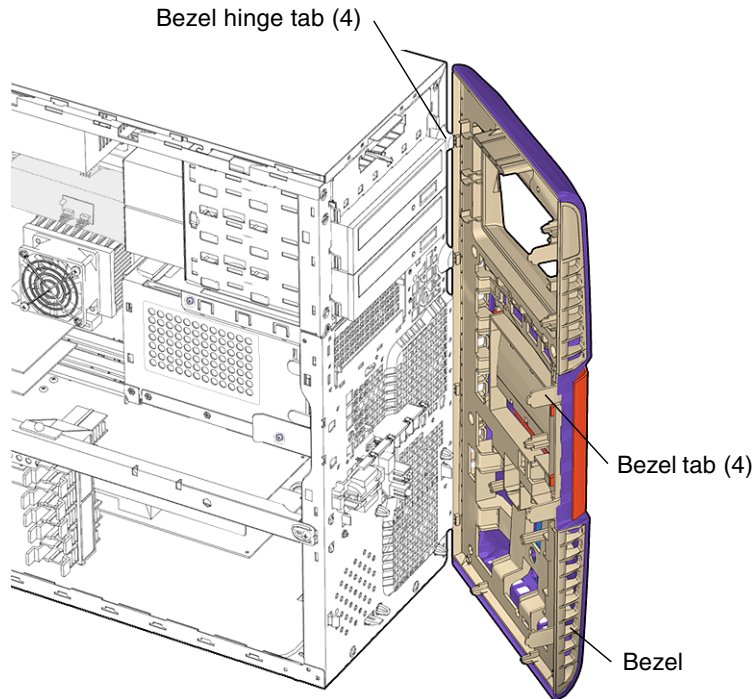

FIGURE 10-12 Removing the Bezel
4. Release the bezel (FIGURE 10-12).